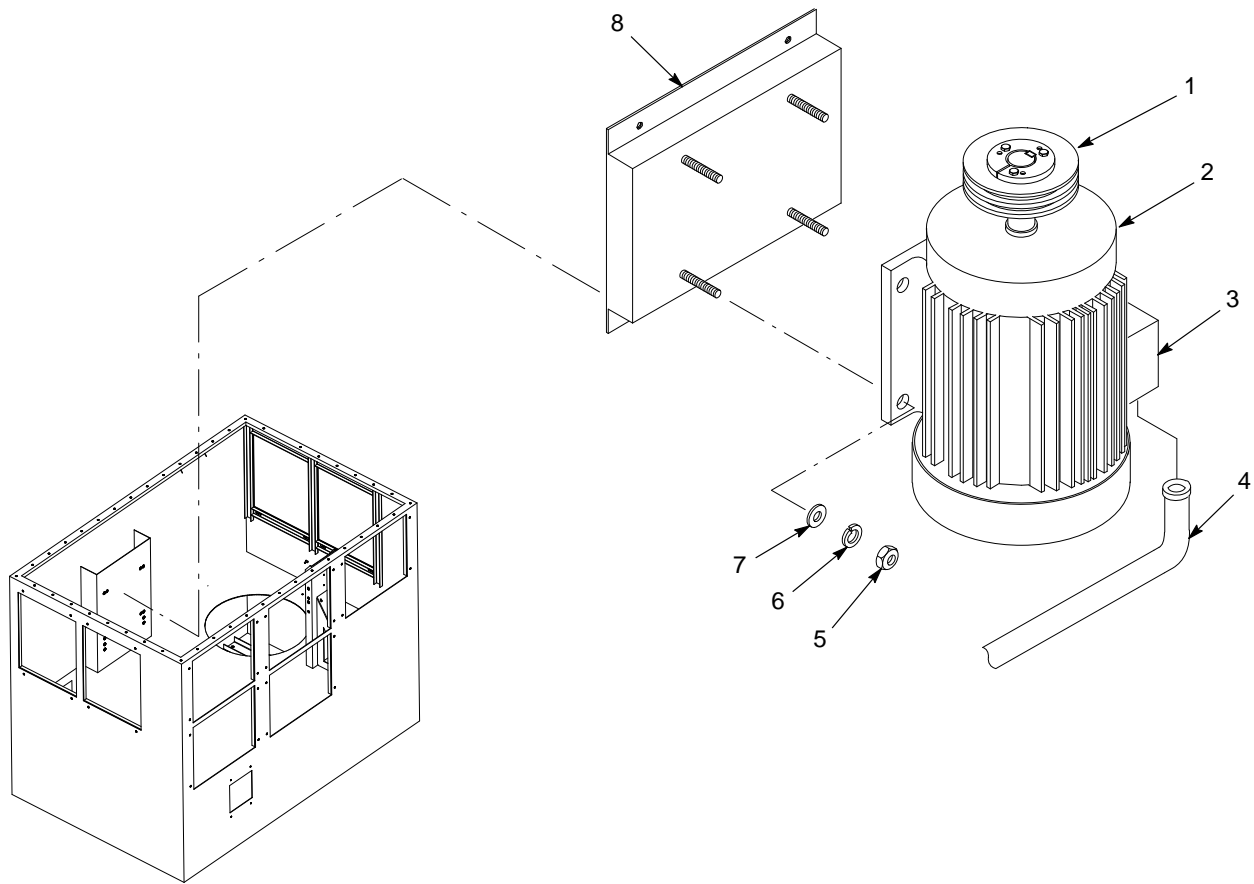

Figure 6-10 Fan Motor Replacement
2. See Figure 6-10. Remove the cover from the motor junction box (3). Tag and disconnect the wiring from the motor leads. Disconnect the SO cord (4) from the junction box.
3. Remove the V-belts, as described in the *V-Belt Replacement* procedure, from the motor sheave (1).
4. Secure a heavy-duty sling or chains around the motor (2). Attach the sling or chains to a chain hoist or to the forks of a lift truck. Take up the slack in the sling or chains.
5. Remove the nuts (5), lock washers (6), and flat washers (7) securing the motor to the motor mount (8).